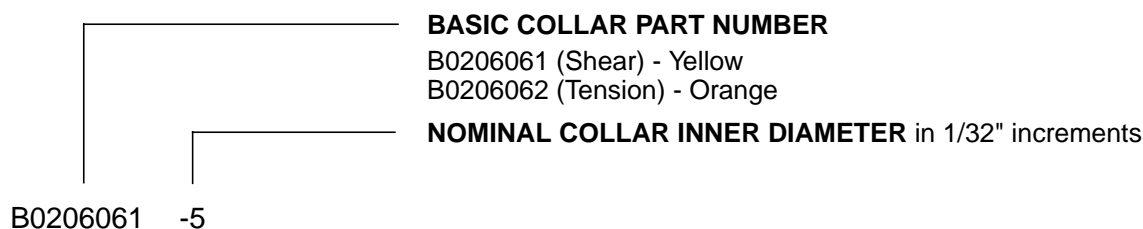

Figure 2 - Lockbolt Collar Part Number Breakdown
- 4.1.4 Titanium lockbolt fasteners as specified on the Engineering Drawing. Refer to Table 1 for Bombardier replacements for Boeing BACB30 lockbolts and collars. Refer to Figure 1 for a part number breakdown for lockbolt pins. Refer to Figure 2 for a part number breakdown for lockbolt collars. The pin tips on shear type titanium lockbolts are yellow (tension pins are not colour coded) and the head is marked with the Huck part number.